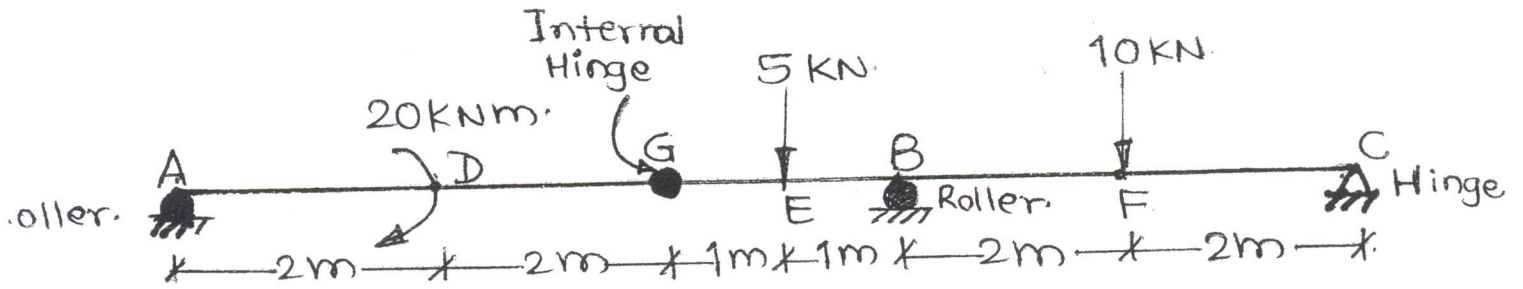

Fig.Q.2
Q.2 A compound beam is supported and loaded as shown in Fig. Q.2. An internal hinge is provided at G. Using virtual work method, find the reactions at supports A, B and C.